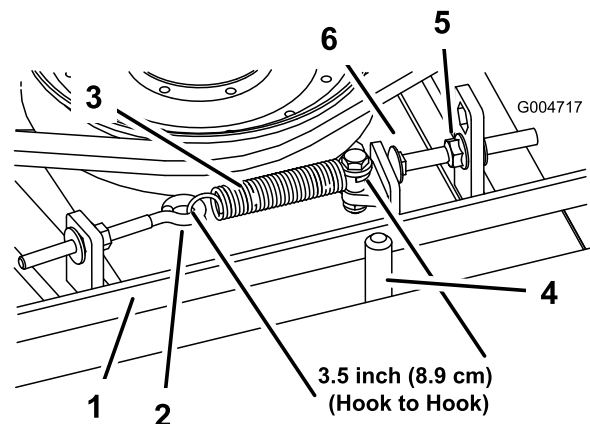

Figure 96
When properly tensioned, the inside measurement of the extension spring (hook to hook) should be approximately 8.9 cm  $\pm$  .63 cm (3.50  $\pm$  .25 inch). Once the correct spring tension is attained, adjust the stop bolt (carriage bolt) until there is approximately .32 cm  $\pm$  .152/.000 cm (.125 +.060/-.000 inch) clearance between the head of the bolt and the idler arm (Figure 96).
**Note:** Make sure the belt is positioned on the spring side of the belt guide (Figure 96).
2. Loosen the eye bolt allowing the removal of the extension spring (Figure 96).
3. Loosen the flange nut securing the stop bolt to the mounting tab. Back off the nut enough to allow the idler arm to pass by the stop bolt (Figure 96). Move the idler pulley away from the belt to release belt tension.
8. Reconnect the extension spring (Figure 96) to the eye bolt and tension the belt as follows: